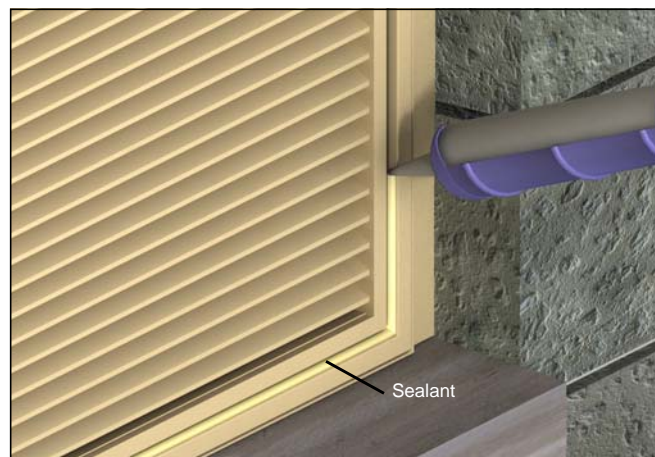

Figure 3
2. Connect louver to sleeve and seal the exterior using silicone. See figure 3. Refer to PTAC unit manufacturer's installation instruction for proper PTAC unit installation into sleeve.